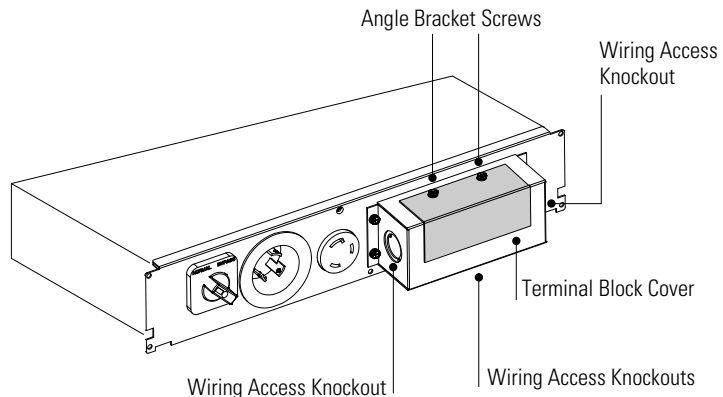

Figure 13. Wiring Access Shown, PDM2-LV-US-HW (EPPDML3000R-2U-HW)
5. Remove the angle bracket from the terminal block cover (see Figure 13).